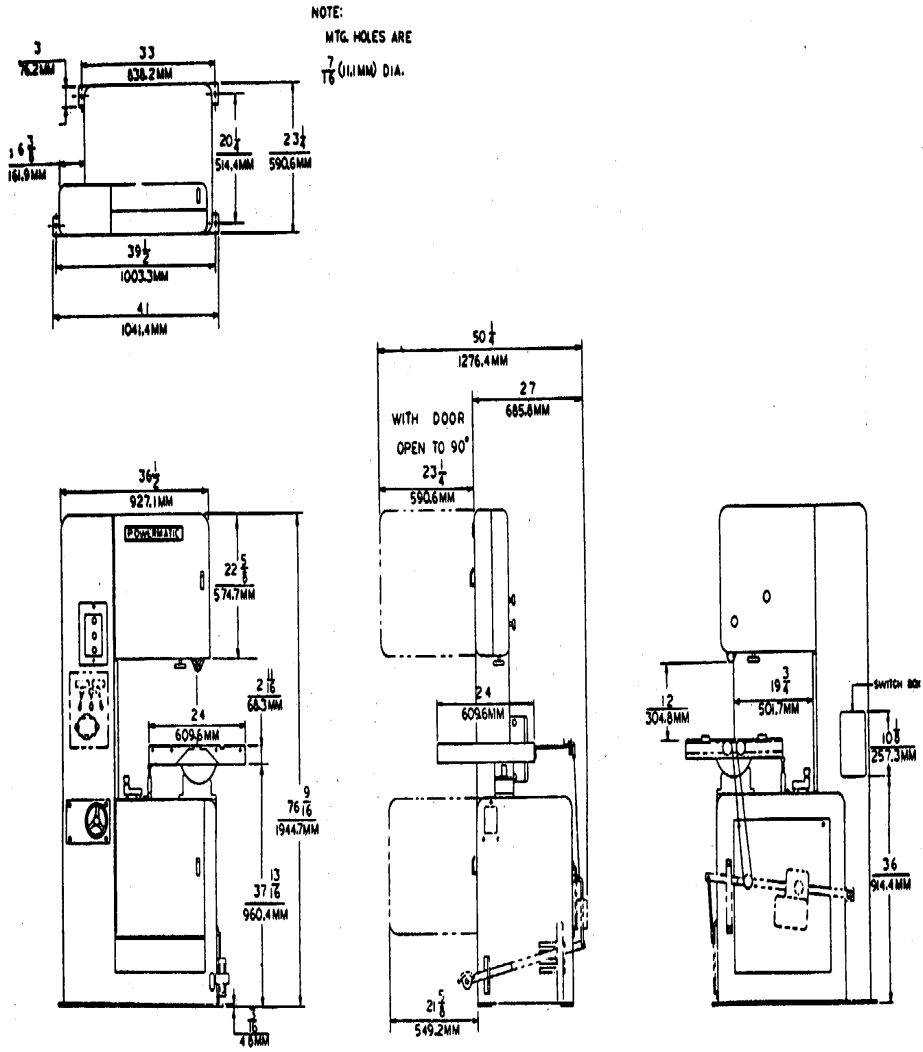

Figure 1. Foundation Layout.
**Caution:** Lift machine with fork lift truck under base. Do not lift through the throat opening. Net weight is 1100 lbs. (498.96kg), approximately. The machine should be located so that space is allowed for easy feeding and removal of material. Clearance should also be allowed behind the machine for servicing and in front for the opening of doors (fig. 1).